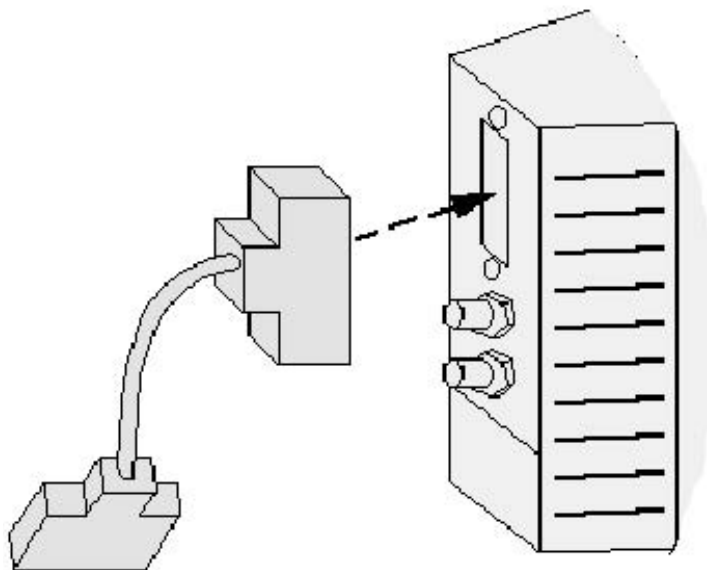

Figure 1-8 Analog DASM Detail
- 6.) Refer to Figure 1-8. Attach cable 46-296980G1 to the front of the DASM.